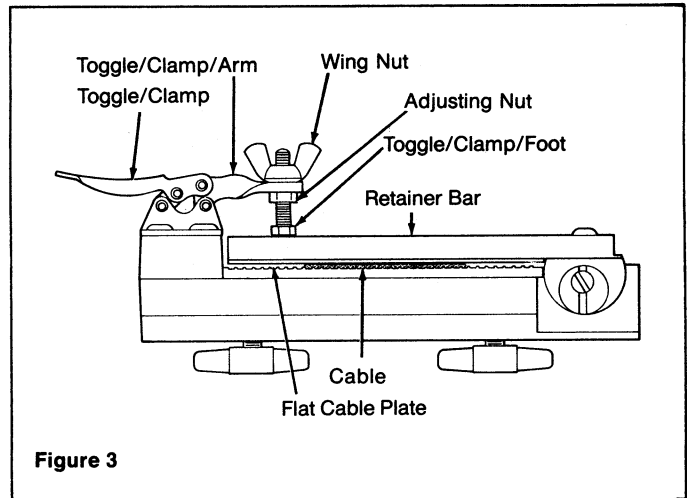

Figure 3
B. Toggle clamp adjustment (Figure 3)